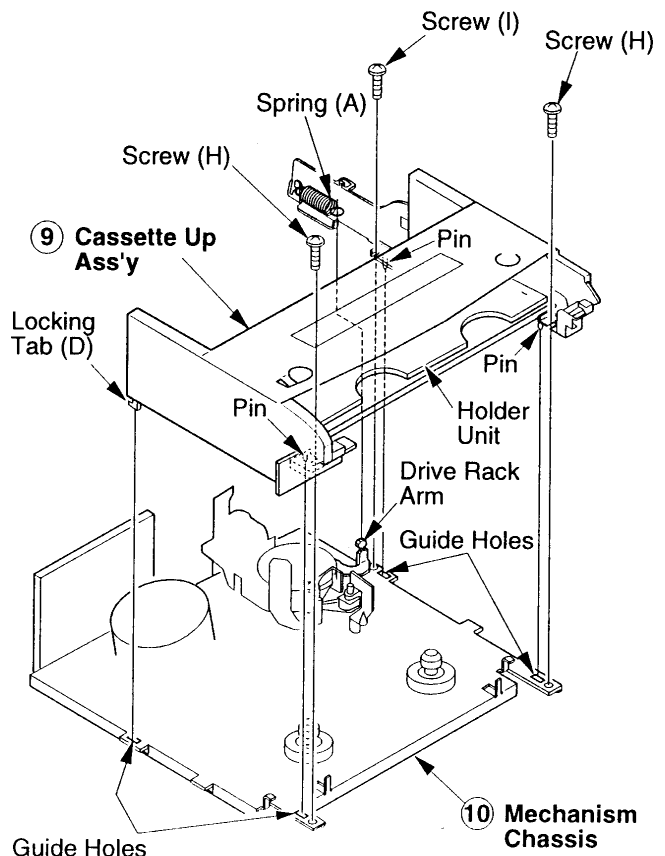

Fig. 11 - Cassette-Up Assembly Removal
Cassette-Up Assembly Removal (Fig. 11)
1. Slide the cassette holder slightly to access screws (H) and remove the two (2) screws (H) (Fig. 11).
2. Remove one (1) screw (I).
3. Unhook spring (A).
4. Slide the cassette-up assembly toward the front to release tab (D) and then lift the cassette-up assembly to remove it.